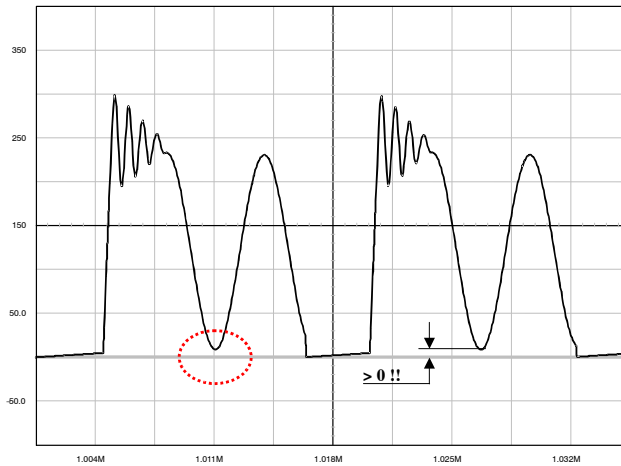

Figure 35. The Drain–Source Wave Shall Always be Positive
1. The lateral MOSFET body–diode shall never be forward biased, either during start–up (because of a large leakage inductance) or in normal operation as shown by Figure 35. This condition sets the
Figure 37a: the simple capacitor limits the voltage according to The lateral MOSFET body–diode shall never be forward biased, either during start–up (because of a large leakage inductance) or in normal operation as shown by Figure 35. This condition sets the maximum voltage that can be reflected during t_{off} . As a result, the Flyback voltage which is reflected on the drain at the switch opening cannot be larger than the input voltage. When selecting components, you thus must adopt a turn ratio which adheres to the following equation: Equation 3. This option is only valid for low power applications, e.g. below 5 W, otherwise chances exist to destroy the MOSFET. After evaluating the leakage inductance, you can compute C with Equation 4. Typical values are between 100 pF and up to 470 pF. Large capacitors increase capacitive losses...